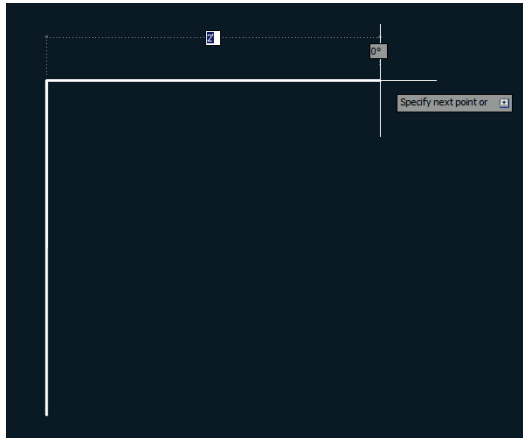

FIGURE 3.4 Using Snap to gauge distances without typing specific measurements
8. Type L, and press Enter twice to continue drawing from the last point. Toggle Grid off in the status bar. Move the cursor horizontally to the right from the point at which the rubber band is anchored. Click on the drawing canvas when the dynamic input value reads 2'-0" (or 600 mm), and press Enter as shown in Figure 3.4.